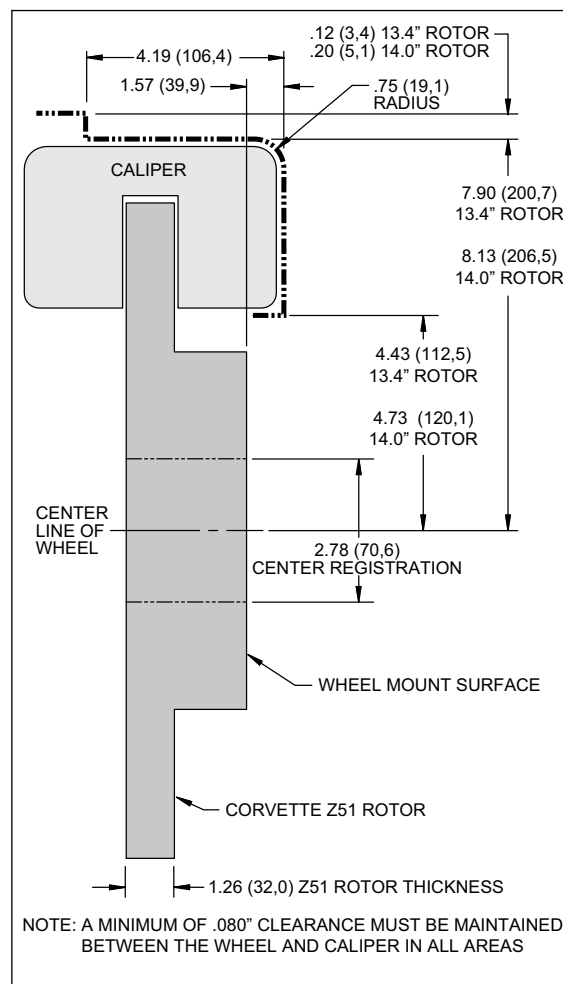

Figure 2. Wheel Clearance Diagram
- Use of this kit generally requires 18" wheels. In some cases, using the 13.38" diameter Z51 rotor may fit with 17" wheels. Please refer to the wheel clearance diagram (Figure 2, page 3) for minimum clearance requirements and compatibility with your wheels and preferred rotor size. Parts that have been installed may not be returned or exchanged.
•Make sure this is the correct kit to fit the exact make and model year of your vehicle, spindles, and wheels. This kit is designed for direct bolt-on installation to mount a Aerolite 6R caliper to all 1997-2013 C5/C6 Corvette Original Equipment (OE) production front spindles using an OE style one-piece front rotor from one of the following production models:
•**NOTE:** This kit does not fit all Corvette wheels. This kit has been verified to fit inside 18" C6 Grand-Sport and Z06 front wheels, but interference may occur with other production and aftermarket wheel styles. Wheel clearance must be verified using Figure 2.
•Verify your wheel clearance using Figure 2.